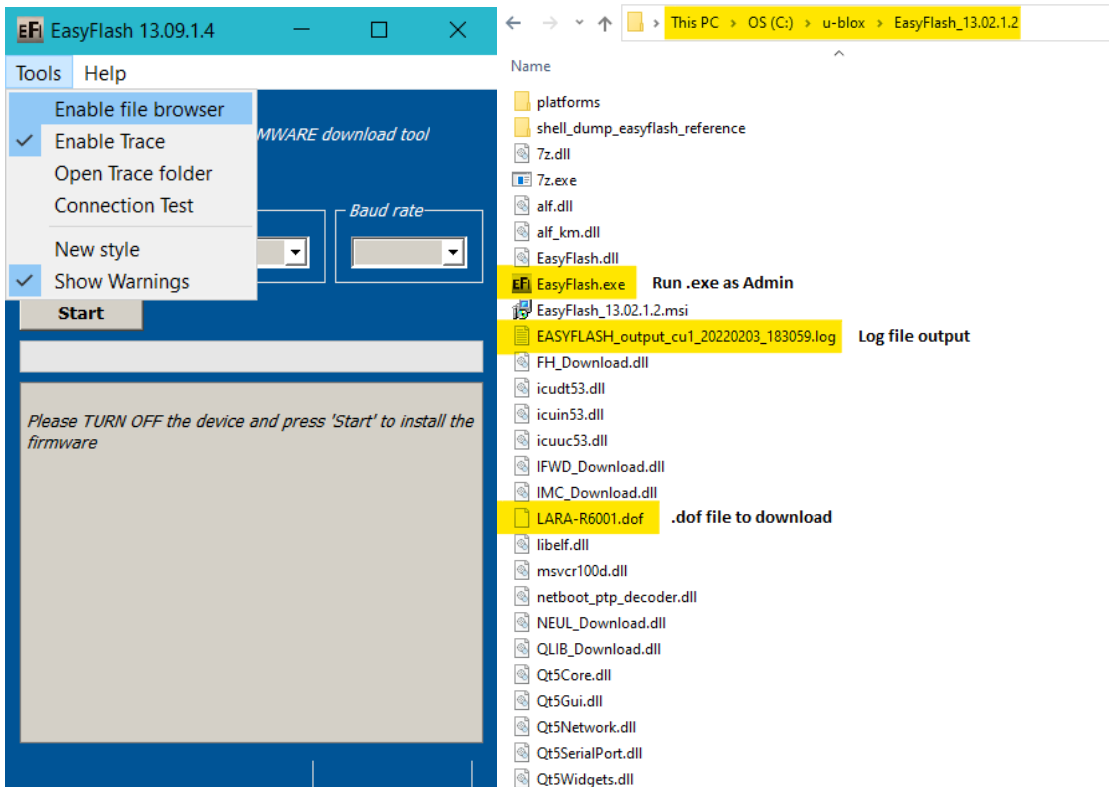

Figure 8: EasyFlash directory and file details
Alternatively, uncheck "Enable file browser" in "Tools" to use a .dof file stored in the application folder (see Figure 8).
5. "Enable trace" from main menu (see Figure 8) is ticked by default. This will create a log per flash attempt. It is useful if something goes wrong, and it is needed to report the issue.